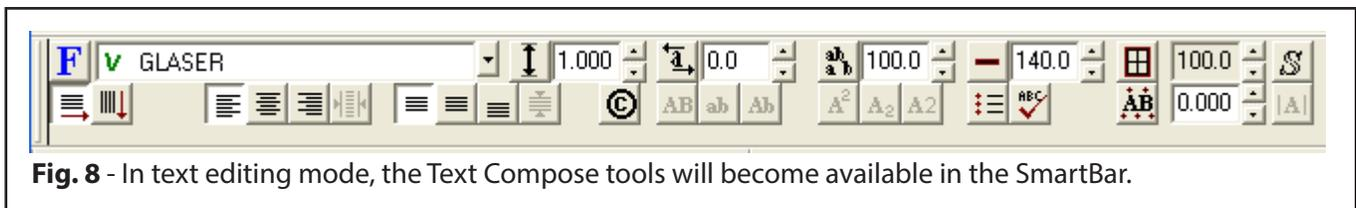

Fig. 8 - In text editing mode, the Text Compose tools will become available in the SmartBar.
2. Notice that your cursor now has a 'T' next to it. Clicking within the sign blank will now enter the Text Compose mode, and text editing controls will become available in the SmartBar (Fig. 8).